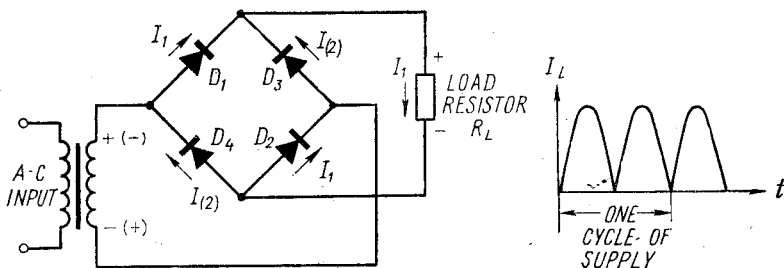

Fig. 22. Full-wave bridge rectifier circuit
4. During this first half-cycle the plates of diodes 3 and 4 are more negative than their cathodes and, hence, these diodes do not conduct. This is indicated by the positive half-cycles for diodes 3 and 4, in Fig. 22. Thus, the first half-cycle is reproduced by the conducting diodes 1 and 2 and across the load resistor, as illustrated by the solid waveforms in Fig. 22.
6. Thus, the second half-cycle of the ac supply voltage is reproduced by conducting diodes 3 and 4 and also across the load resistor, as shown by the solid waveforms in Fig. 22. Note that the current pulses flow through the load resistor in the same direction during both ac half cycles, each pulse flowing from the plate junction of diodes 1 and 3 through the load resistor to the cathode junction of diodes 2 and 4.